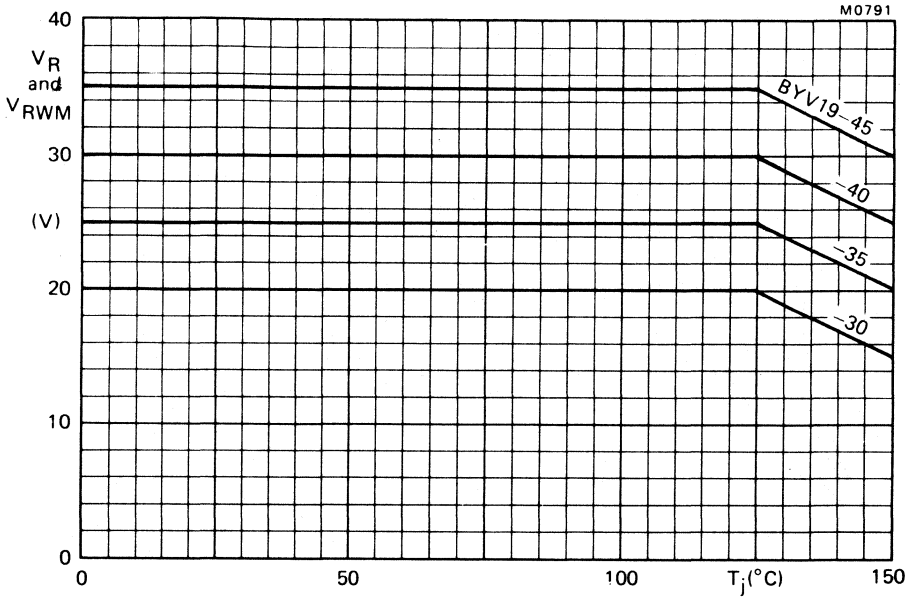

Fig.5 The maximum permissible continuous and crest working reverse voltage as a function of junction temperature.
- Up to $T_j = 125^\circ\text{C}$; see derating curve (Fig.5) for higher temperature operation.